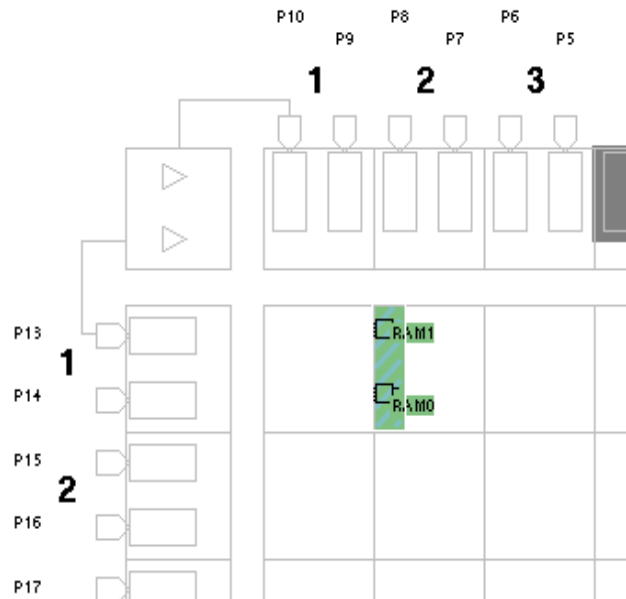

Figure 4-12 Floorplanned RAM
8. Place the RAM by clicking in the area shown in Figure 4-12.